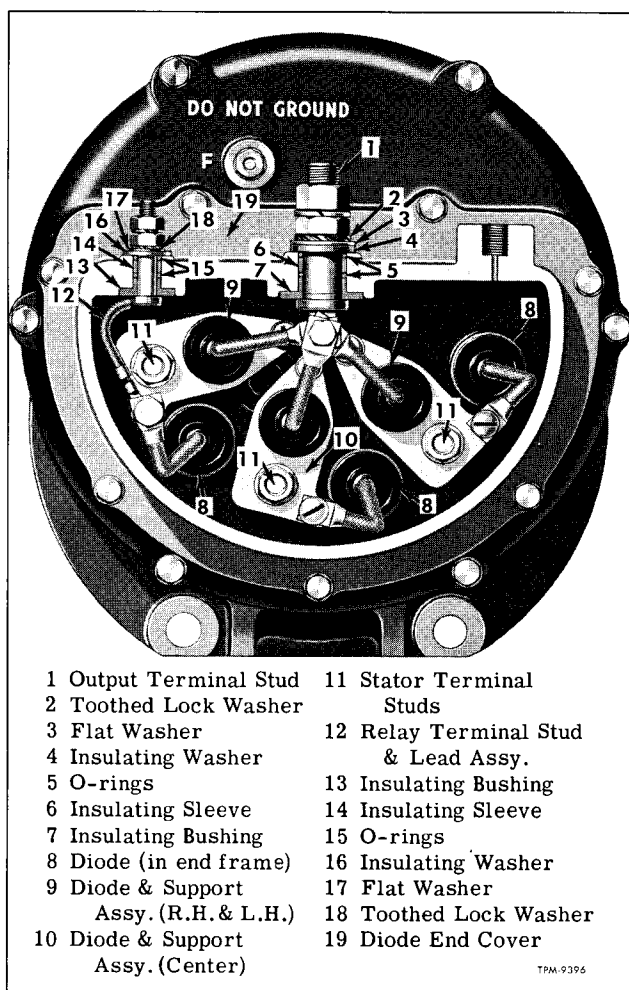

Figure 6—Cutaway View Through Diode End Cover
1. Remove all nuts, lock washers, flat washers, and insulating washers from the output and relay terminal studs (fig. 6). Tap studs lightly to loosen, then push studs down into diode end cover.